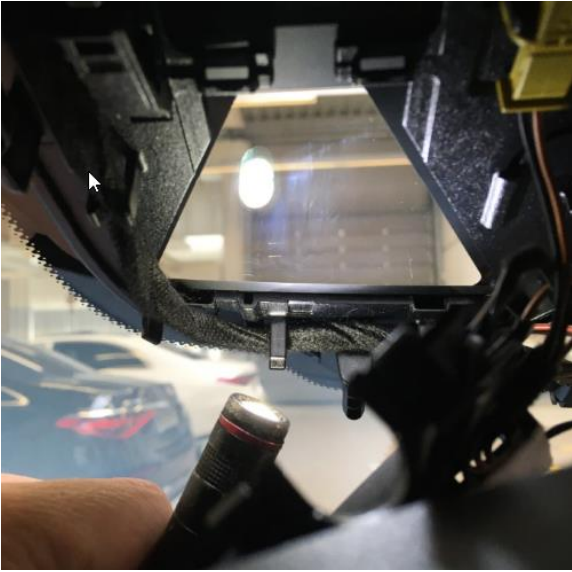

Figure 3
4. Clean windshield (**Figure 3**) in camera field of vision.